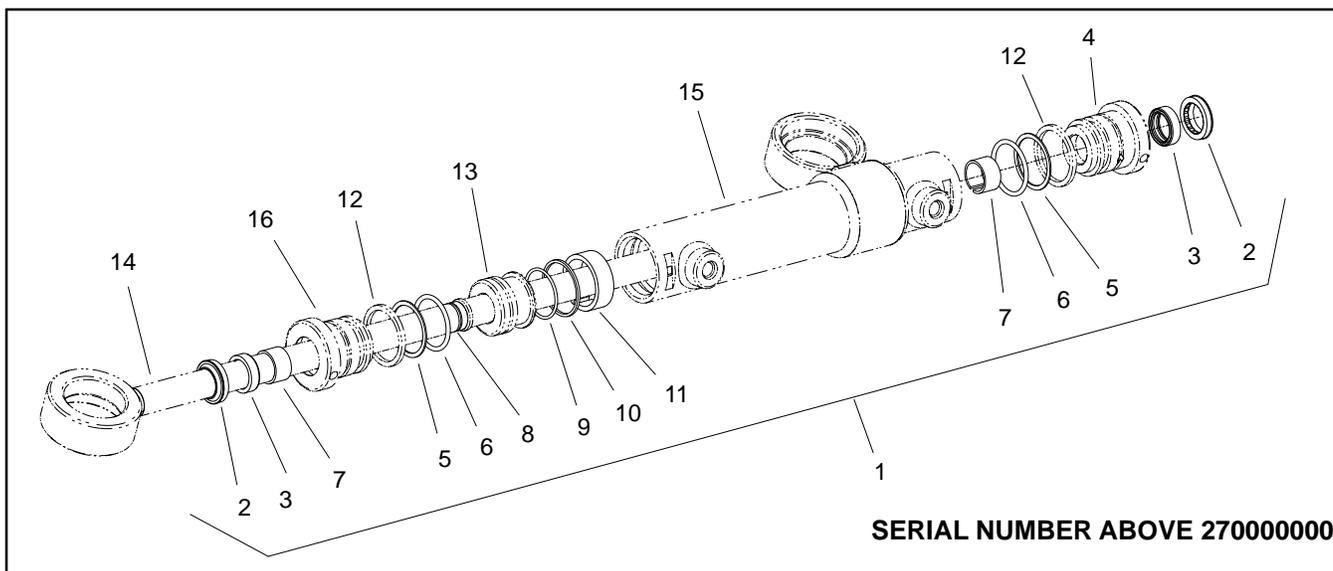

Figure 83
NOTE: On machines with serial number above 270000000 (Fig. 83), the steering cylinder design does not allow removal of the piston (item 13) from the rod. This cylinder design prevents replacing the O-ring on the inside of the piston and also the seals on the ball joint end head (item 16). If a steering cylinder leak exists on